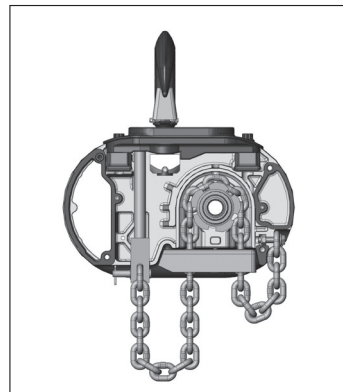

Figure 3. Attaching Load Chain Double Reeved Models
Remove the hook suspension, (2) suspension screws, (1) dead end pin, (1) washer, and (1) cotter pin from the packaging. It should be noted that the suspension includes a dead end bolt and block for supporting the dead end of the load chain as shown in Figure 3. Place the suspension assembly into the recess on top of the hoist. The dead end block should project through the bottom of the hoist with the pin hole and slot aligned to the underside of the hoist as shown in Figure 3.
The Double Reeved Units are shipped with the dead end of the load chain temporarily connected to the bottom of the hoist by a wire tie (1) as shown in Figure 3. The wire tie is located a few links from the end of the chain, and it should not be removed until the chain is to be attached to the dead end block (2). To attach the chain to the dead end block, proceed as follows (not shown):
2. The hoist is shipped with the dead end of the load chain temporarily positioned a few links from the end by a wire tie (1) as shown in Figure 3. Do not remove this wire tie until the chain is secured. (not shown)